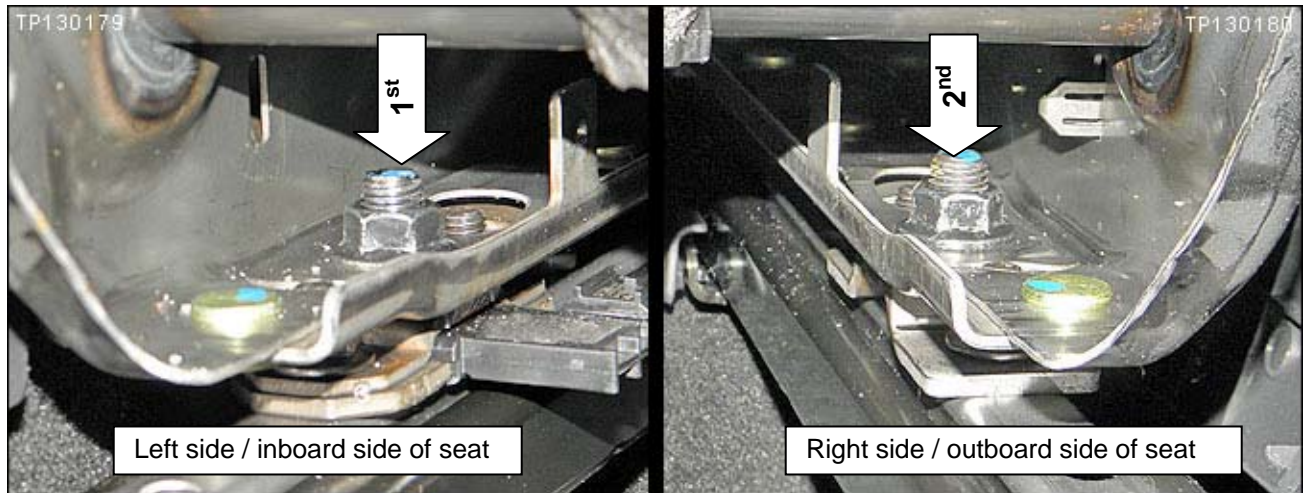

Figure 14
11. From under the rear of the seat, torque 14 mm nuts as follows (see Figure 14):